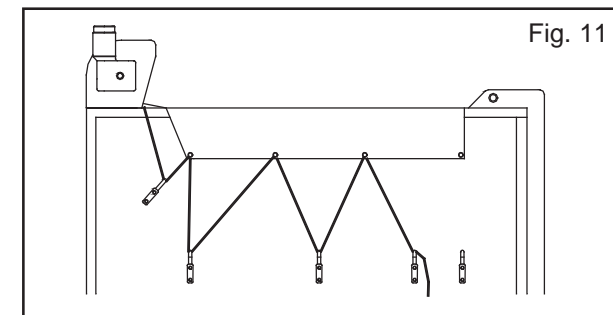

Fig. 11
3. Place middle hooks equal distances from grommet (Fig.11). These hooks should be placed at the same height as the second hook.